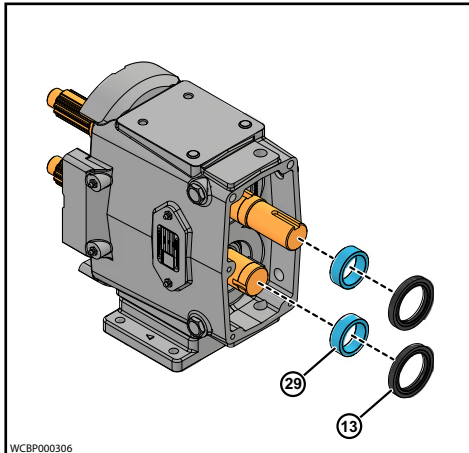

Figure 90 - Install Rear Seal
1. Install the gear spacers (Figure 90, item 29).
3. Install the oil seals with the spring facing out (Figure 90, item 13).